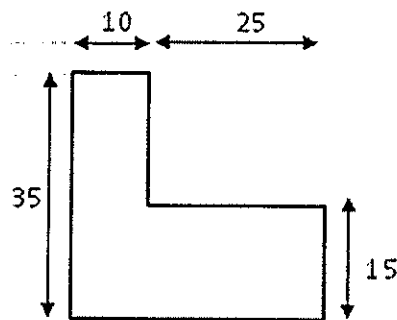

Figure 1 (All dimensions shown in mm.)
- (e) A blanking die is to be designed to blank the part outline shown in Figure 1. The material is a 3-mm-thick stainless steel having an allowance  $a = 0.075$ . Determine the dimensions of the blanking punch and the die opening. You should draw the die and the punch opening, and label the lengths of edges clearly.